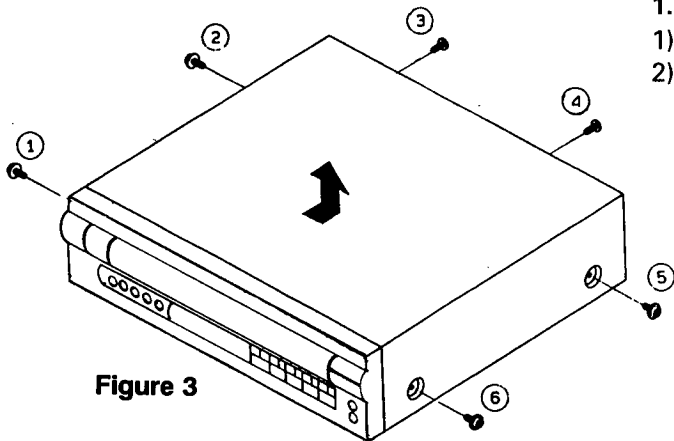

Figure 3
1. Remove the top cover (Figure 3).